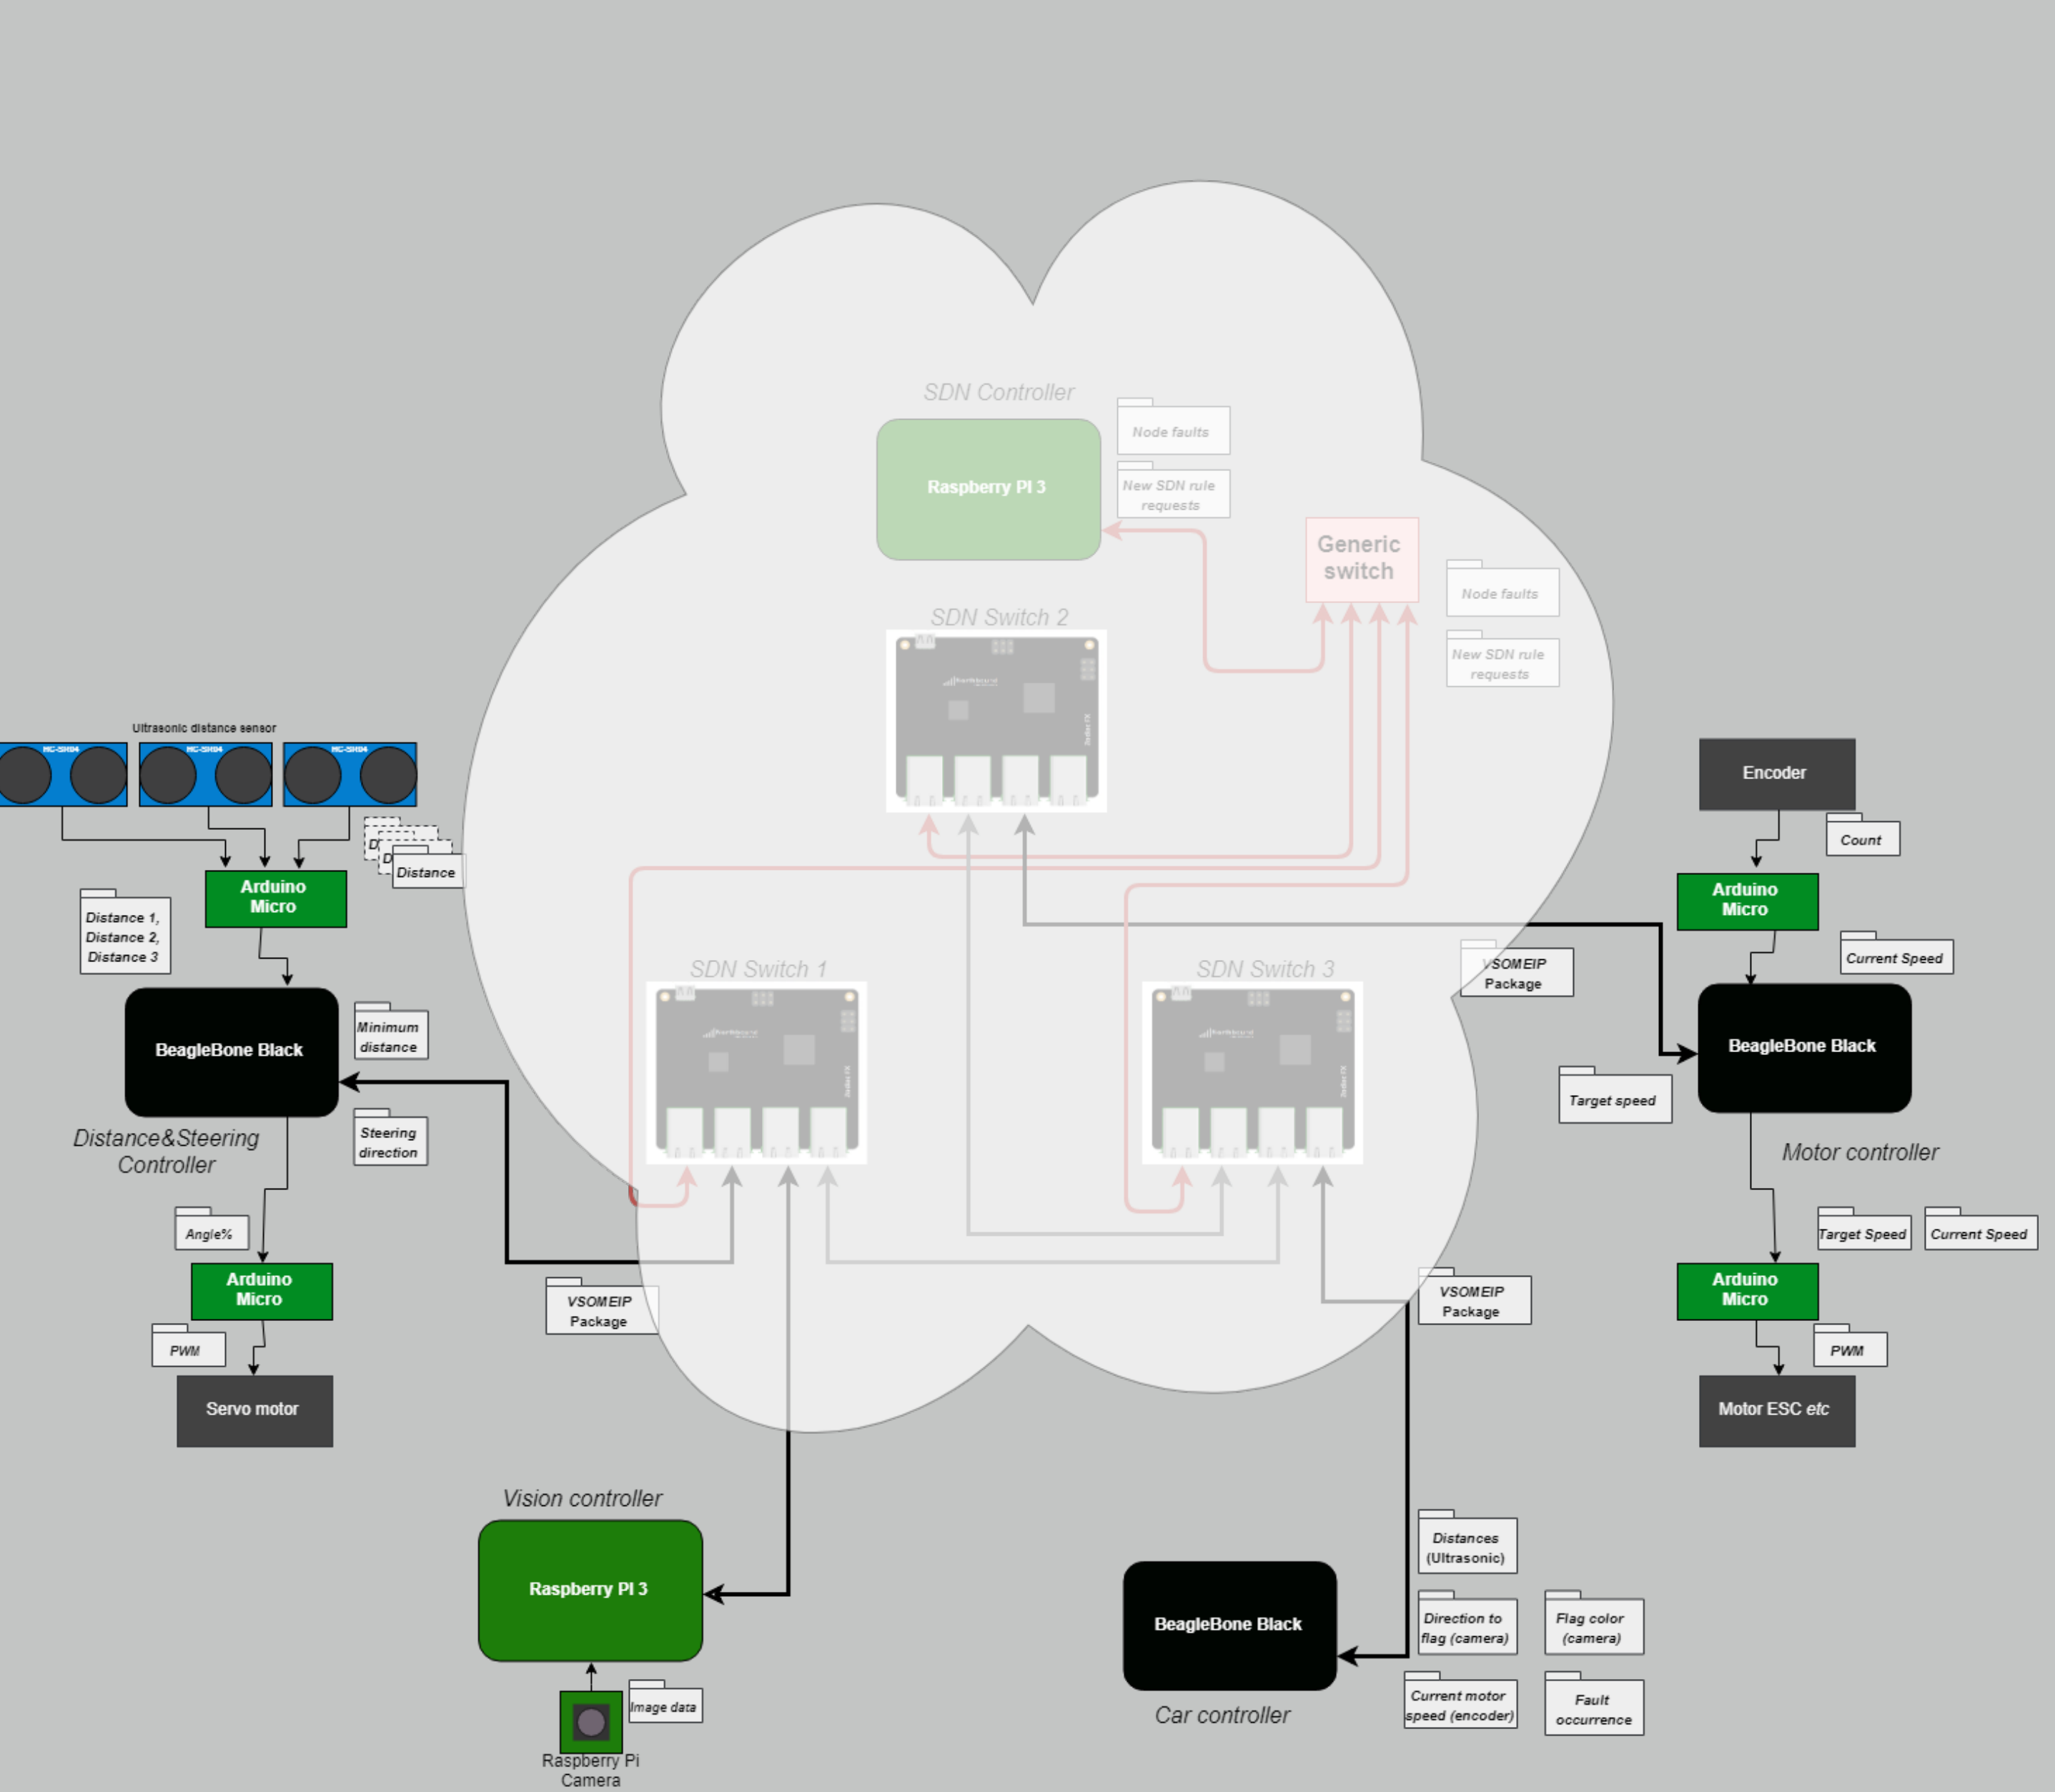

Figure 1:Network topology
- ▶ Three SDN enabled switches from Zodiac FX is used in this project and the network is configured according to the topology in figure 1. The controller is a Raspberry Pi model 3 that uses the RYU SDN framework to control the switches and to gather network information.
- ▶ The car was assembled with laser cut acrylic plastic, designed to secure the hardware on top of the frame. A test rig using the partially assembled car is shown in figure 1.